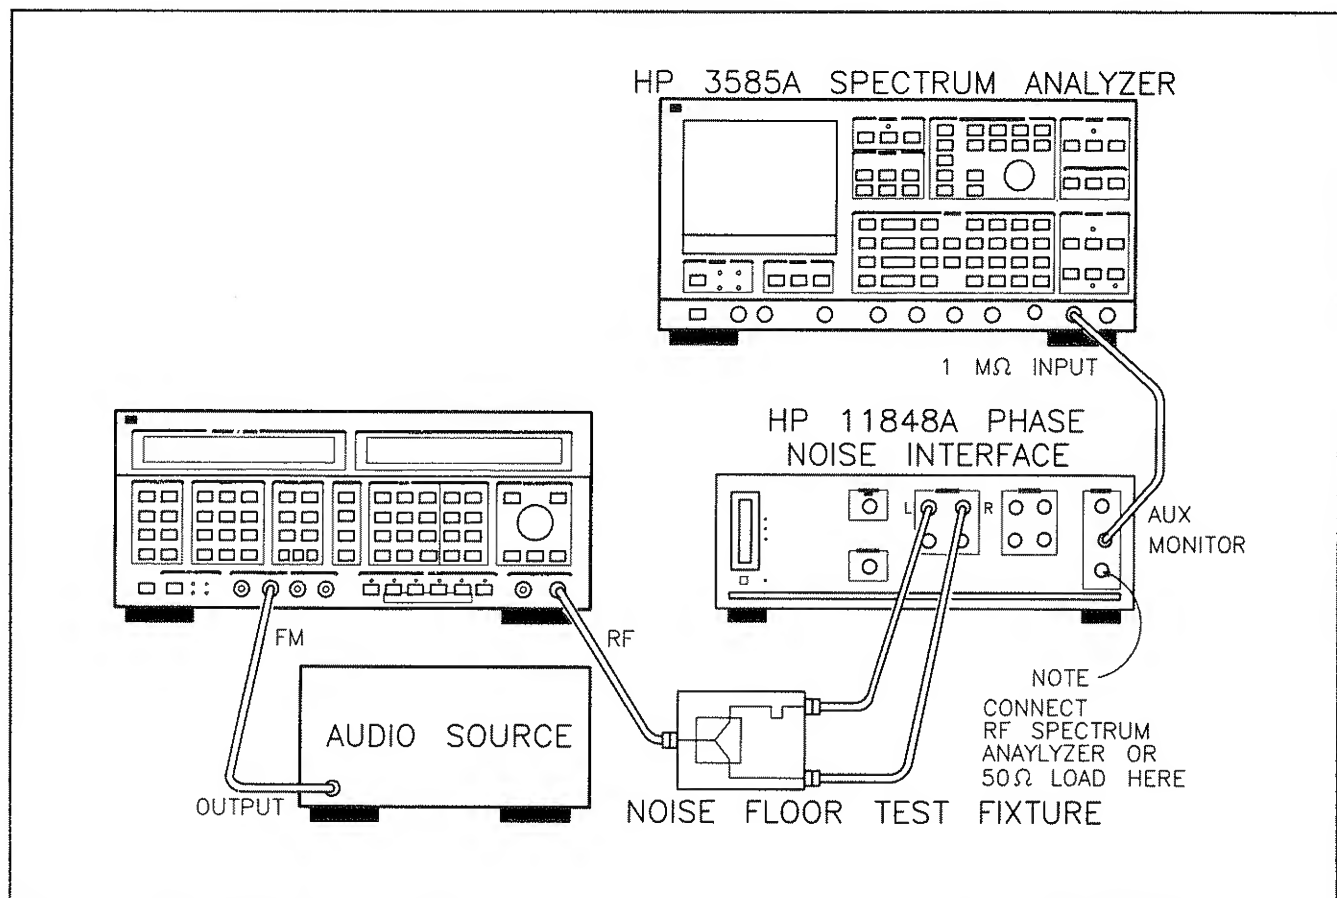

Figure 3-5. FM (High Deviation and Rates) Test Setup
2. Connect the equipment as shown in figure 3-5. Check that the SPECTRUM ANALYZER output connector on the front panel of the HP 11848A Phase Noise Interface is terminated in 50 Ω . Also, check that the delay line connectors are tight.